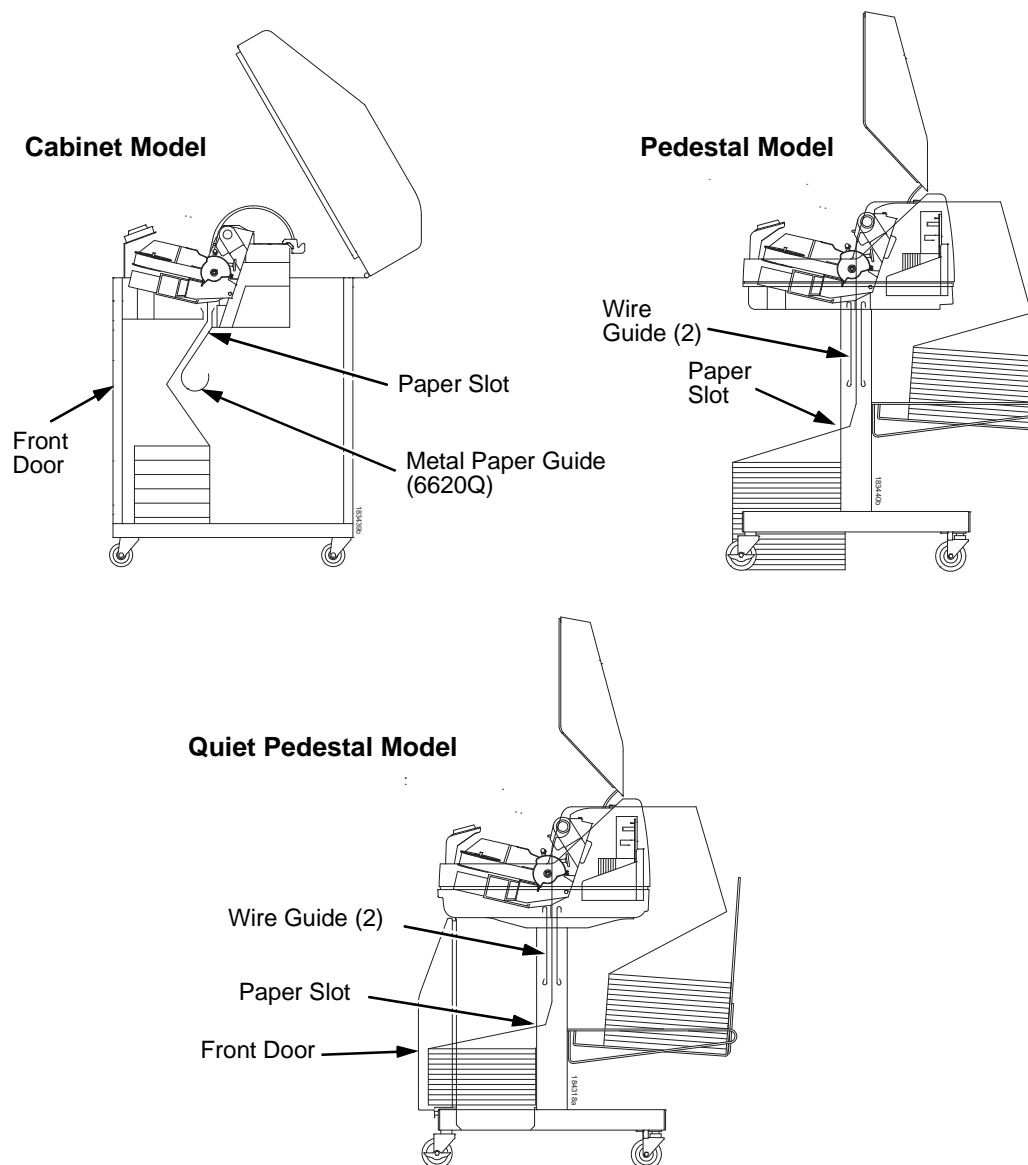

Figure 7. Paper Slot Location
3. Feed the paper up through the paper slot (see Figure 7). It may be easier to feed one corner of the new paper up through the slot first. When this corner can be grasped from the top, rotate the paper back to the normal position.